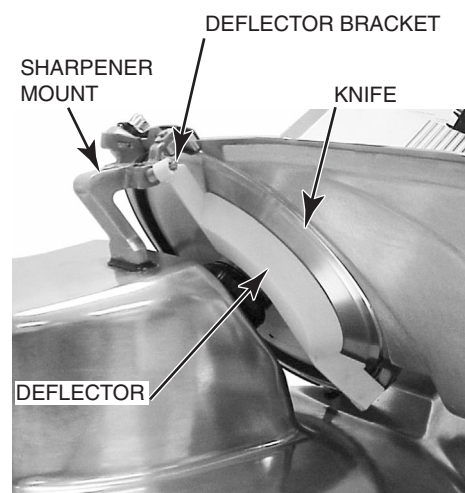

Fig. 16
- **Deflector** — Assists in deflecting sliced product to the platter during slicing. The DEFLECTOR (Fig. 16) fits on the DEFLECTOR BRACKET located on the SHARPENER MOUNT.
Replace the DEFLECTOR, if present, below the KNIFE (Fig. 16); also, refer to page 3.